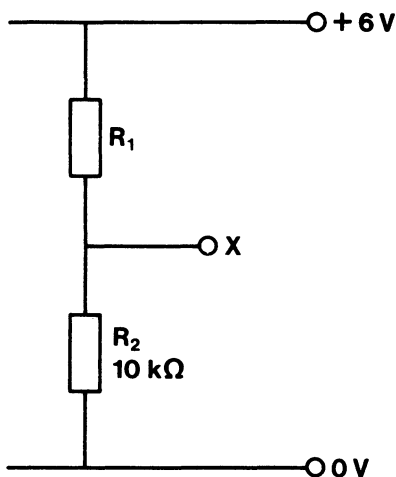

FIG. 3.20
16. In the circuit of Fig. 3.20 point X is to be kept at a steady potential of +1 V by the resistances  $R_1$  and  $R_2$  connected across the low resistance 6 V power supply.  $R_2$  is a 10 k $\Omega$  resistor.